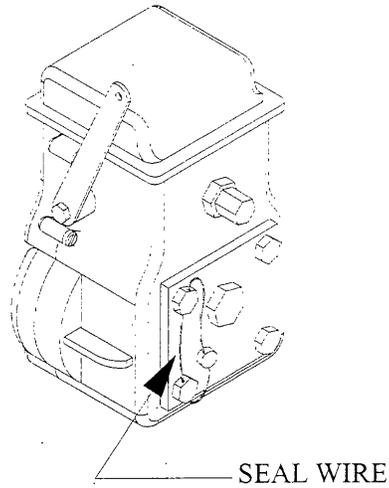

FIGURE 2.
- [WEEKLY] 6. ( ) The fuel injection rate adjustment mechanism (3)\* and the engine governor setting are locked and sealed. See Figure 2.